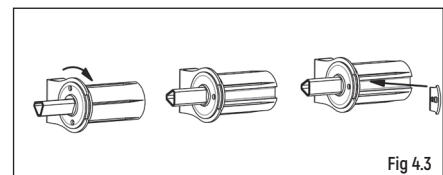

Fig 4.3
3. Install the bearing lock to lock the master blind into position. Rotate the bearing 90 degrees so that one of the holes aligns with the end of the bracket. Insert the bearing lock clip into the slot in the bearing at the end of the bracket, ensuring it clicks into place. (Note. The bearing lock cannot be pulled out once the clip is locked into place) (**Fig 4.3**).